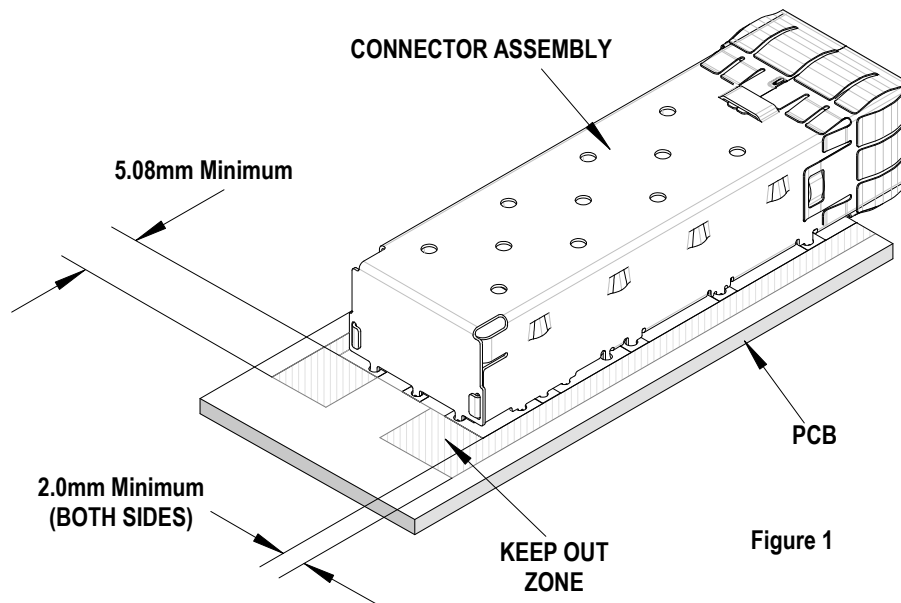

Figure 1
2. These tools require a "Keep Out Zone" around the connector free of components. The rear of the connector should be .200" (5.08mm). The right and left sides should be .080" (2.00mm). See Figure 1.